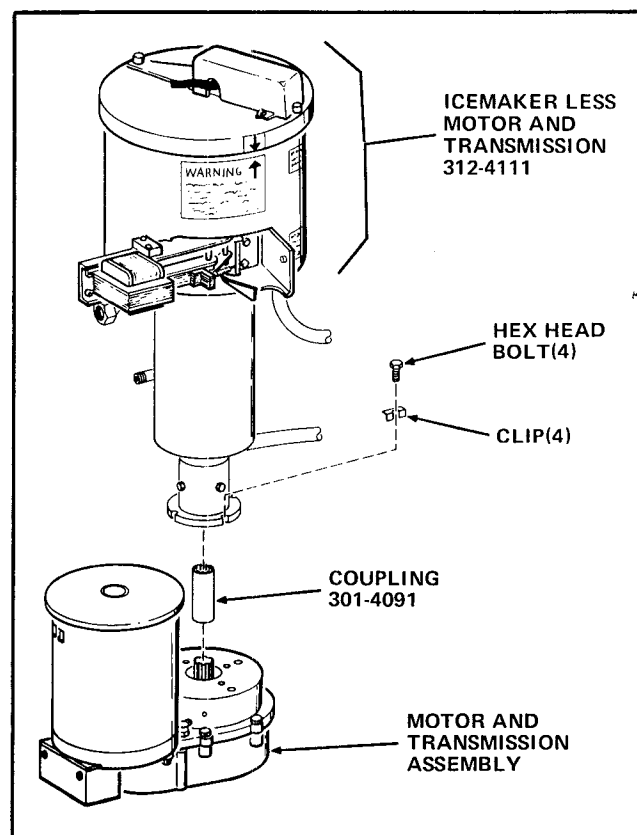

FIGURE III-1
1. Install the Coupling, Part Number 301-4091, included in the Kit, on the Transmission output Shaft. See Figure III-1.